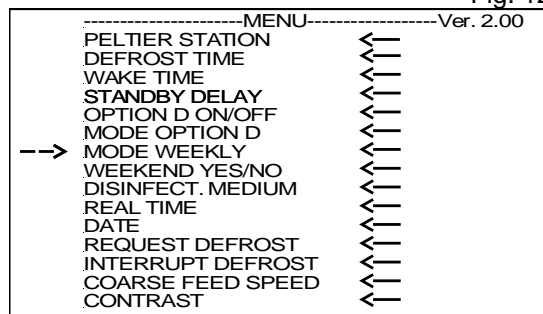

Fig. 122
- Press the enter button (fig. 116.10) to select the submenu (fig. 122).